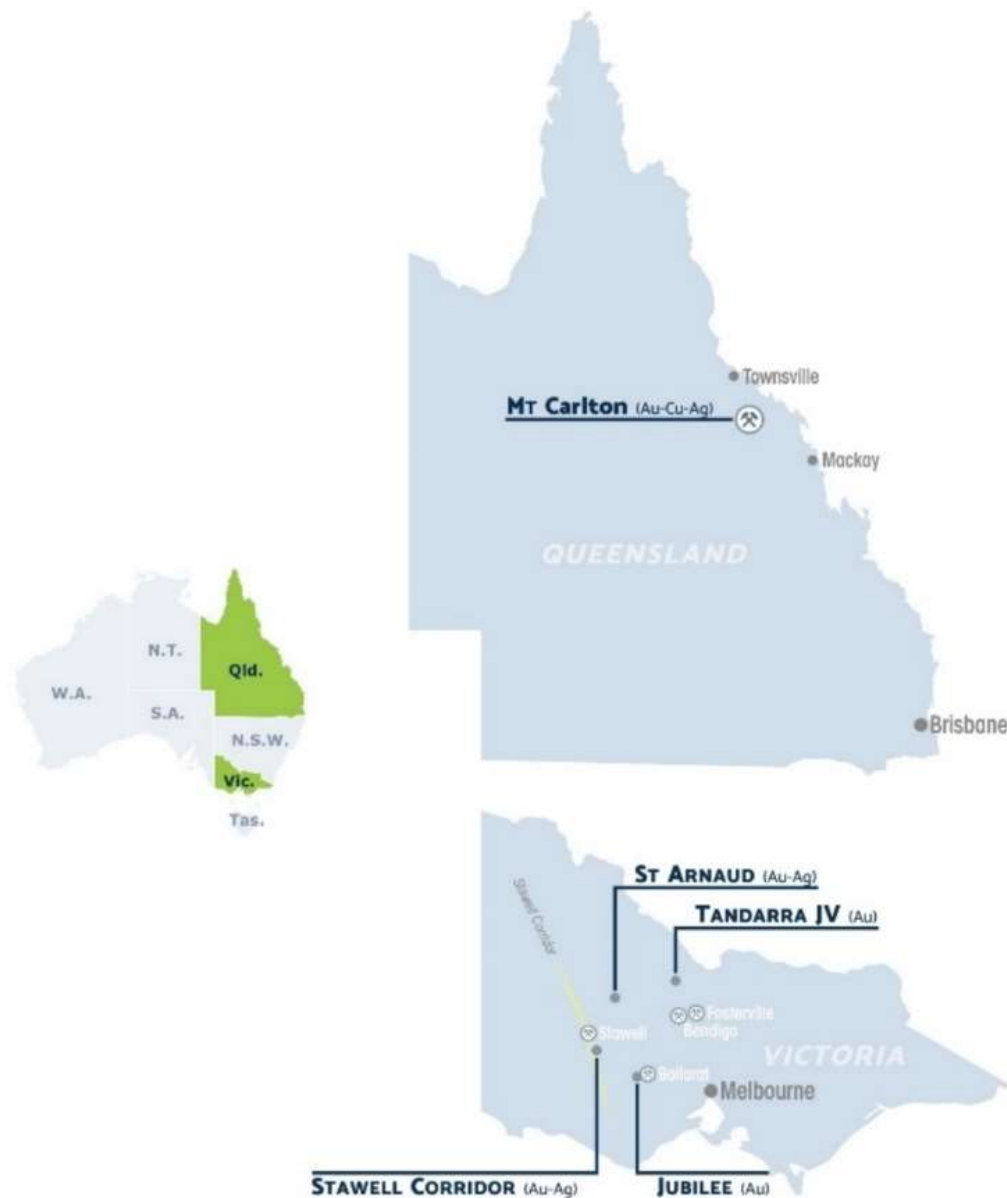

Figure 1: Location of Navarre's gold projects.
Navarre Minerals Limited (ASX: NML) (Navarre or the Company) is pleased to report high-grade gold and silver results from a recently completed Reverse Circulation (RC) and diamond core drilling program at the BV1 prospect, part of the recently acquired and wholly owned Mt Carlton operation (**Mt Carlton**) in north Queensland (Figures 1 & 2).